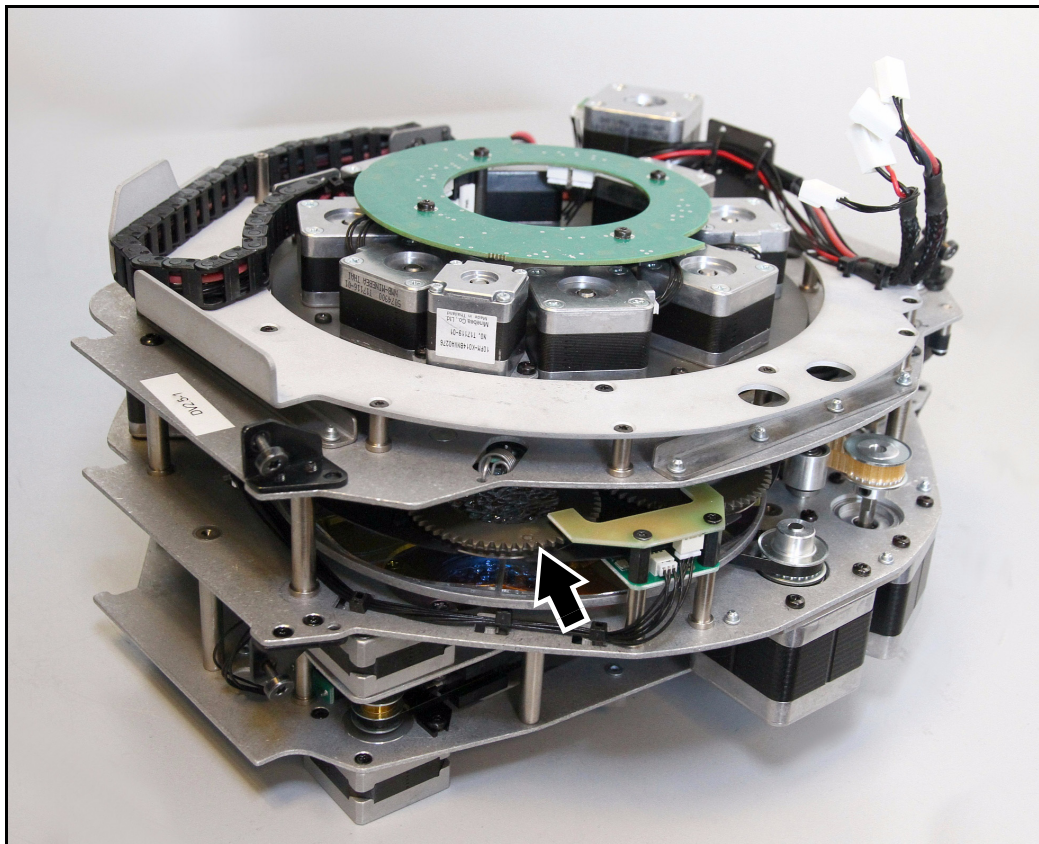

Figure 14: Access to rotating gobos
4. See Figure 14. Turn the gobo wheel until the gobo you want to replace is accessible from the side of the module.